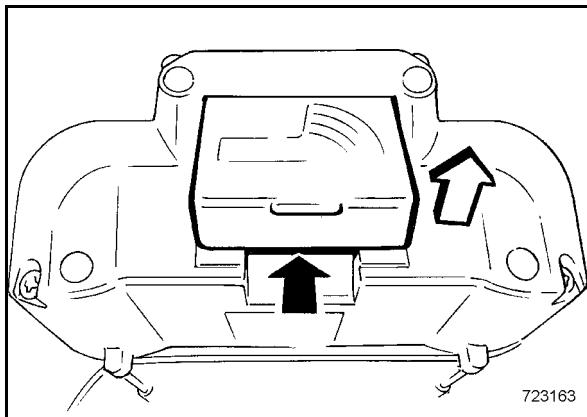

Fig. 72
- Press the power pack forward and lift it out of the housing (Fig. 72).